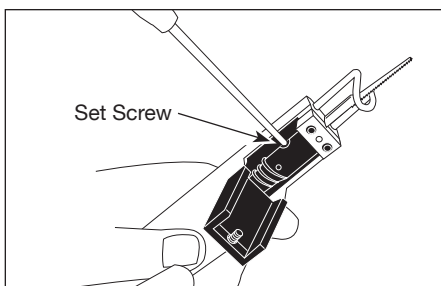

Figure 4
3. Use a 4 mm hex wrench to loosen set screws which secure sawblade in tool (Figures 4 & 5)